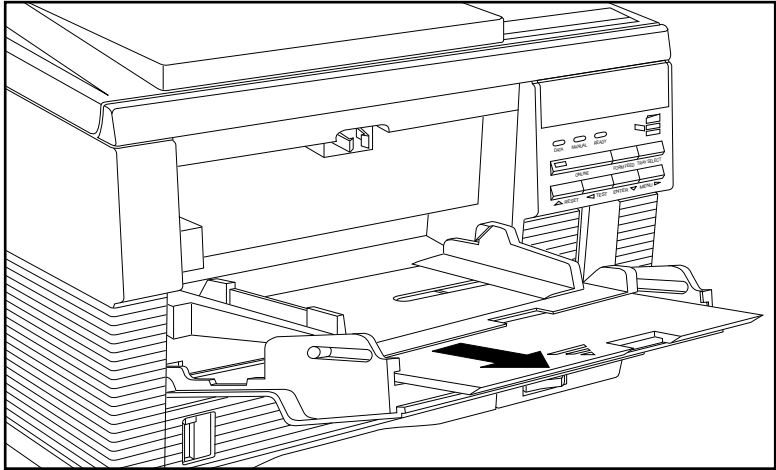

Fig. 6.4 Pull Out the Tray Extender
2. Pull out the tray extender (fig. 6.4).